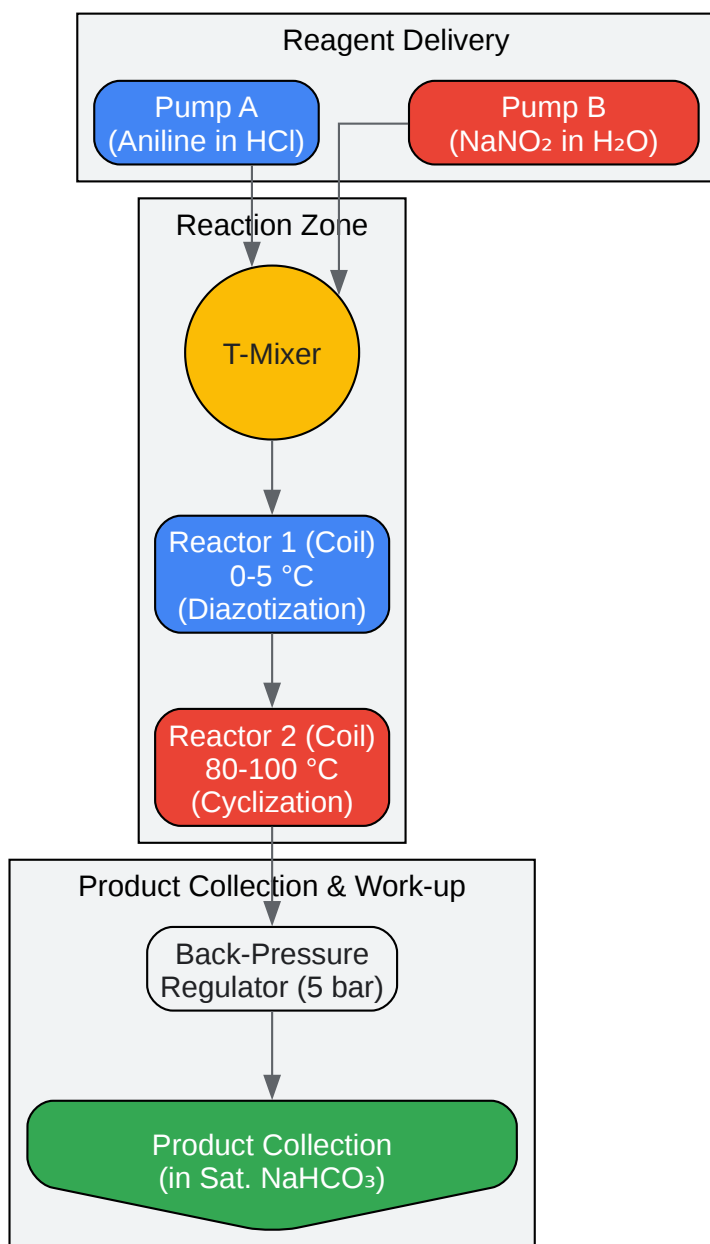

Fig. 1: Flow Chemistry Setup
- **System Preparation:** Assemble the flow reactor system as shown in Figure 1. Ensure all connections are secure.